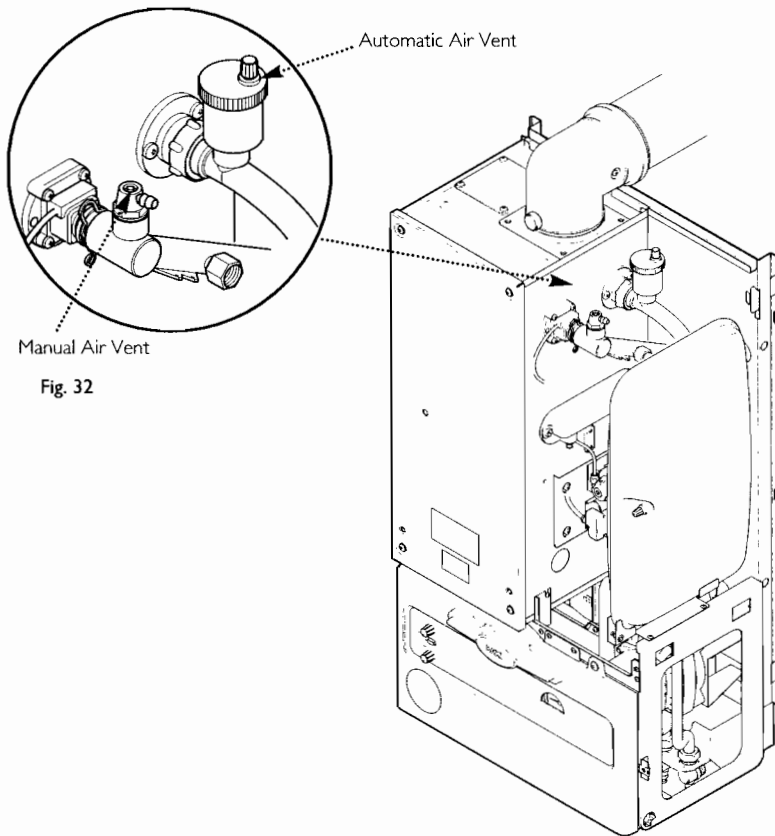

Fig. 32
4. Open the manual and automatic air vents (Fig. 32) (ensure all external controls are turned on and calling for heat).